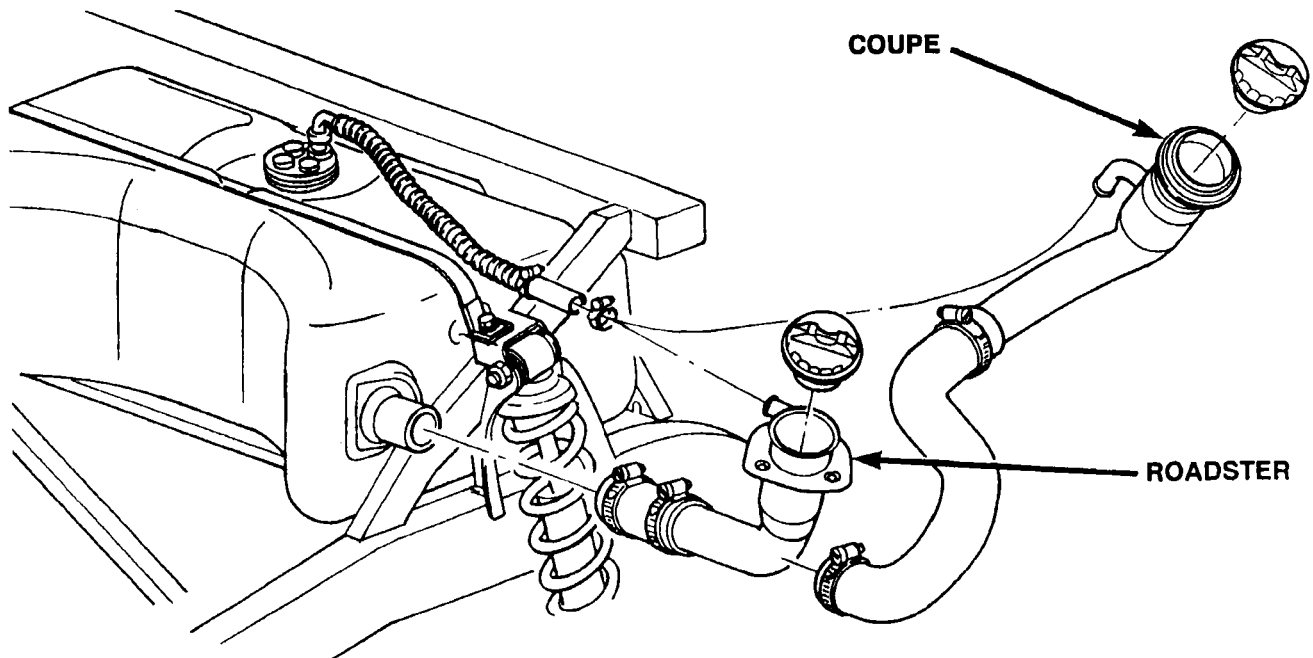

Figure 19
8. Reach through the access panel opening and disconnect the filler tube from the fuel tank (Figure 19).
28. Disconnect the fuel tank vent hose from the filler tube (Figure 19).